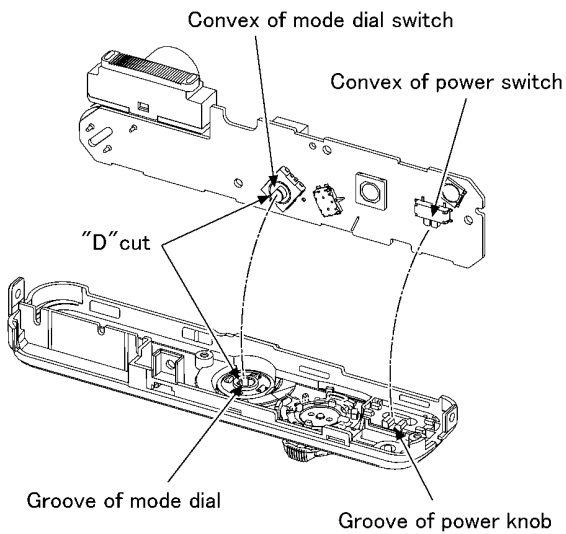

Fig. D7
| 6   | Flash Top P.C.B. | Fig. D6Fig. D7 | 2 Screws (D)Top Operation CoverFlash Top P.C.B.                           |